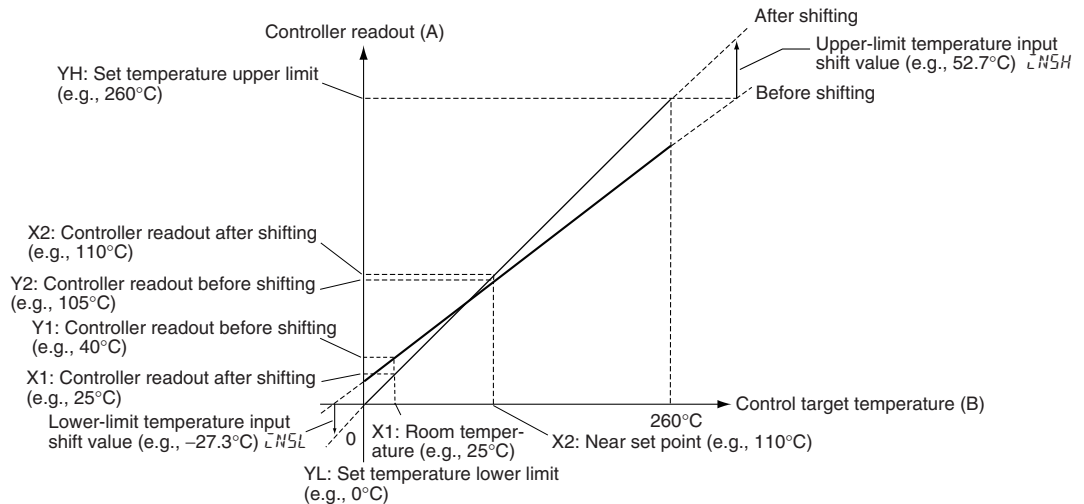

Figure 3 Illustration of 2-Point Shift
- Shift the Controller readout at two points, near room temperature and near the value at which the temperature of the control target is to be controlled. For this reason, check the thermometer temperature (B) and Controller readout (A) with the thermometer temperature near room temperature and near the set point.
- Set the upper-limit temperature input shift and the lower-limit temperature input shift using the following formulas based on the temperatures before shifting (Y1 and Y2), the temperatures after shifting (X1 and X2), the set temperature upper limit (YH), and the set temperature lower limit (YL). The shift is illustrated in Figure 3.